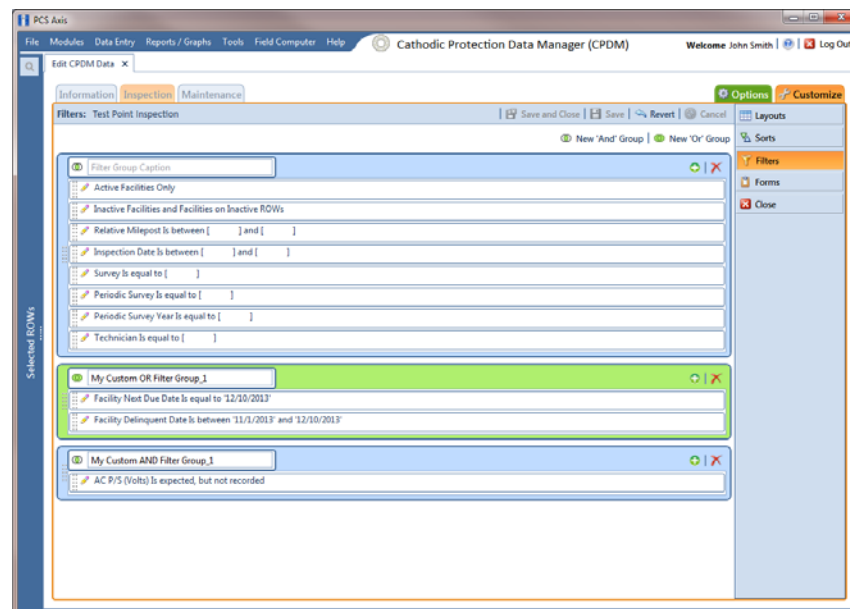

Figure 7-94. Filters
- 4 Click the **Customize** tab , then the **Filters** button  to open the *Filters* page (Figure 7-94).